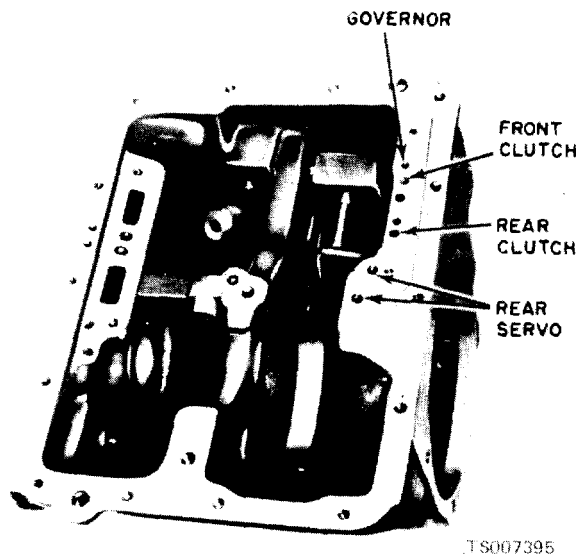

Figure 7-6. Air Pressure Checks.
b. Test Set-up. To make the air pressure checks, loosen the oil pan bolts and lower one edge of the oil pan to drain the transmission fluid. Remove the pan and the control valve body assembly. The inoperative units can be located by introducing air pressure into the transmission case passages leading to the clutches, servos, and governor (fig. 7-6). 50-75 PSI pressure is sufficient for purposes of this test.